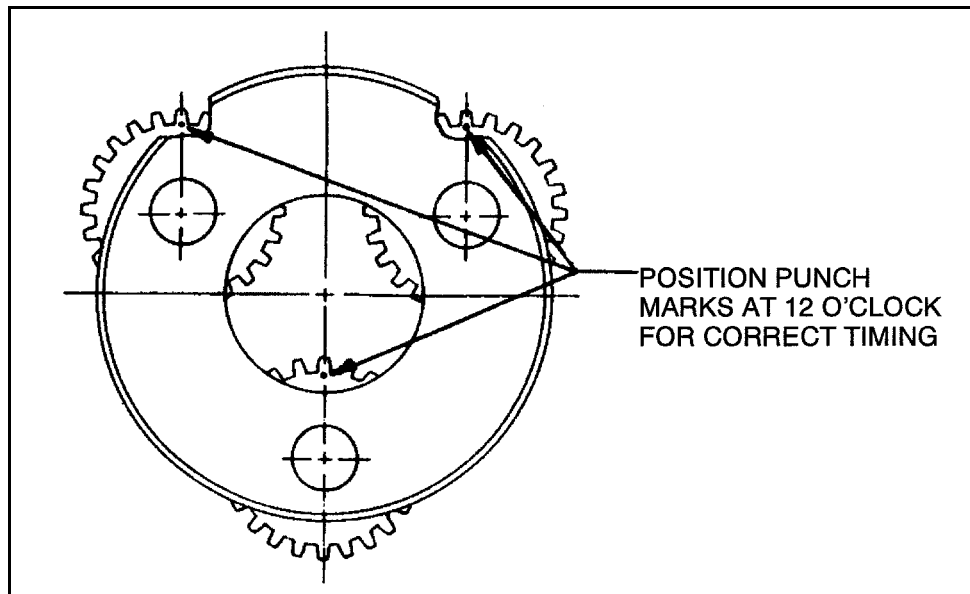

Figure 3-8. Torque Hub Carrier Timing
- i. Align roll pin holes in both shaft (15) and carrier (10) with chamfered portion of shaft hole uppermost.
- j. Position new roll pin (16) in hole in carrier (10) and drive pin into hole until end of pin is flush with carrier surface.
3. Position internal gear (19) on inner end of output shaft (30).
- a. Place carrier assembly on a flat surface, positioning two top gears at ten o'clock and two o'clock, and one bottom gear at six o'clock as shown in Figure 3-8., Torque Hub Carrier Timing.
5. Place ring gear (7) over cluster gears (11), with raised shoulder of ring gear facing down.
6. While holding ring gear (7) in position, invert carrier assembly (10) so that ring gear and larger diameter of cluster gears (11) are facing down.
7. Apply a light coating of petroleum jelly or multi-purpose grease to inner thrust washer (8) and thrust bearing (9).
8. Position thrust washer (8), thrust bearing (9), and thrust washer (8) into applicable groove of carrier assembly (10).
9. Apply a light coating of petroleum jelly or multi-purpose grease to new inner o-ring (6).
10. Position o-ring (6) in groove in hub (24).
11. While holding ring gear (7) and carrier assembly (10), insert smaller diameter of cluster gears (11) into internal gear (19).
12. Rotate ring gear (7) until hole marked "X" is located over hub shaft assembly (24).
13. Insert input gear (18) into carrier assembly (10) so that input gear and larger diameter of cluster gears (11) are in mesh. Check that carrier assembly (10) rotates freely.